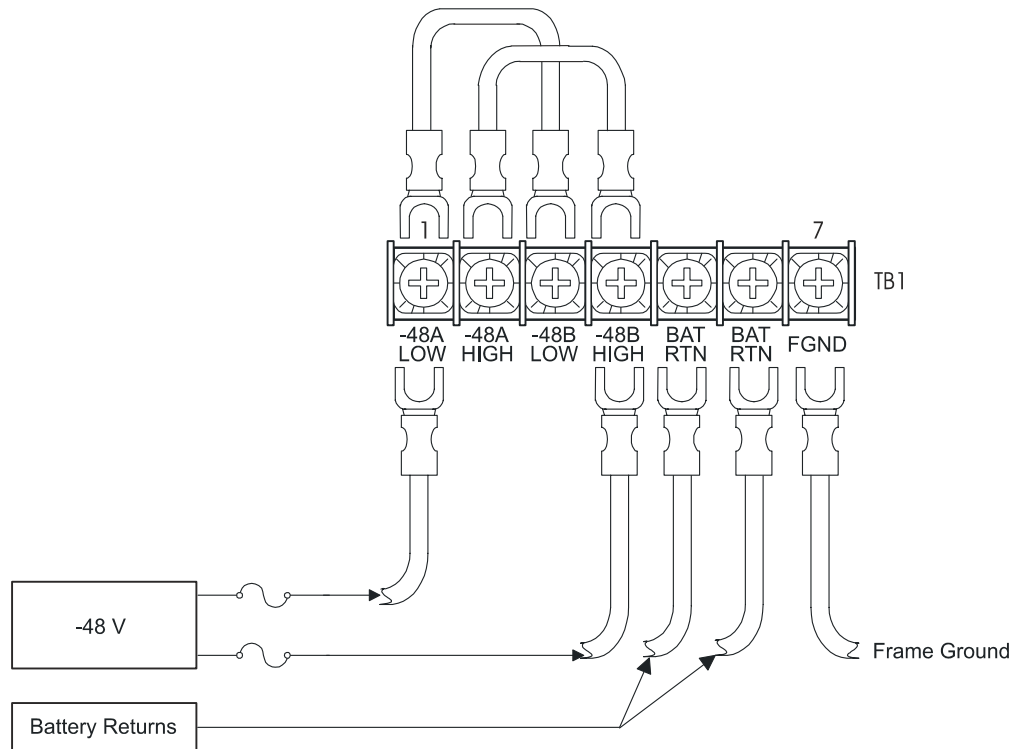

Figure 21. Split-Shelf Wiring
3. Connect a wire from the –48A-LOW terminal of TB1 to the A battery supply at the fuse panel (Figure 21).
4. Connect a short jumper from –48 A-LOW terminal to –48 B-LOW terminal of TB1. Make this connection at the top of the terminal block as shown in Figure 21.
5. Connect a short jumper from –48 A-HIGH terminal to –48 B-HIGH terminal of TB1. Make this connection at the top of the terminal block as shown in Figure 21.